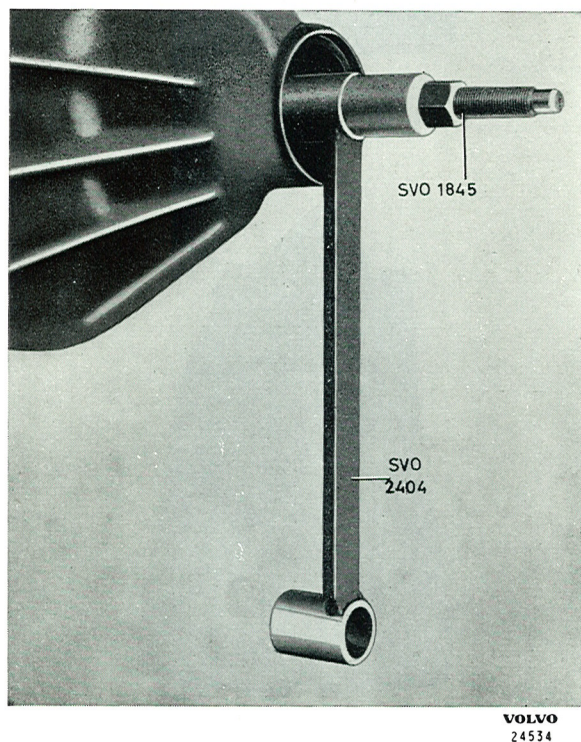

Fig. 4-114. Fitting the pinion
the pinion, see Fig. 4-114. Use the nut tightener until it presses the pinion forwards so that it does not strike the bearing positions.
1. Remove spanner SVO 2404. Fit the oil slinger. Smear the oil seal lips with grease. Lubricate the spring coil also with grease to prevent it from jumping out during fitting. Then fit the oil seal with drift SVO 2806. Press on the flange with the help of tool SVO 1845, see Fig. 4-114. Fit the washer and nut. Tighten the nut to a tightening torque of 28—30 kgm (200—220 lb.ft.).